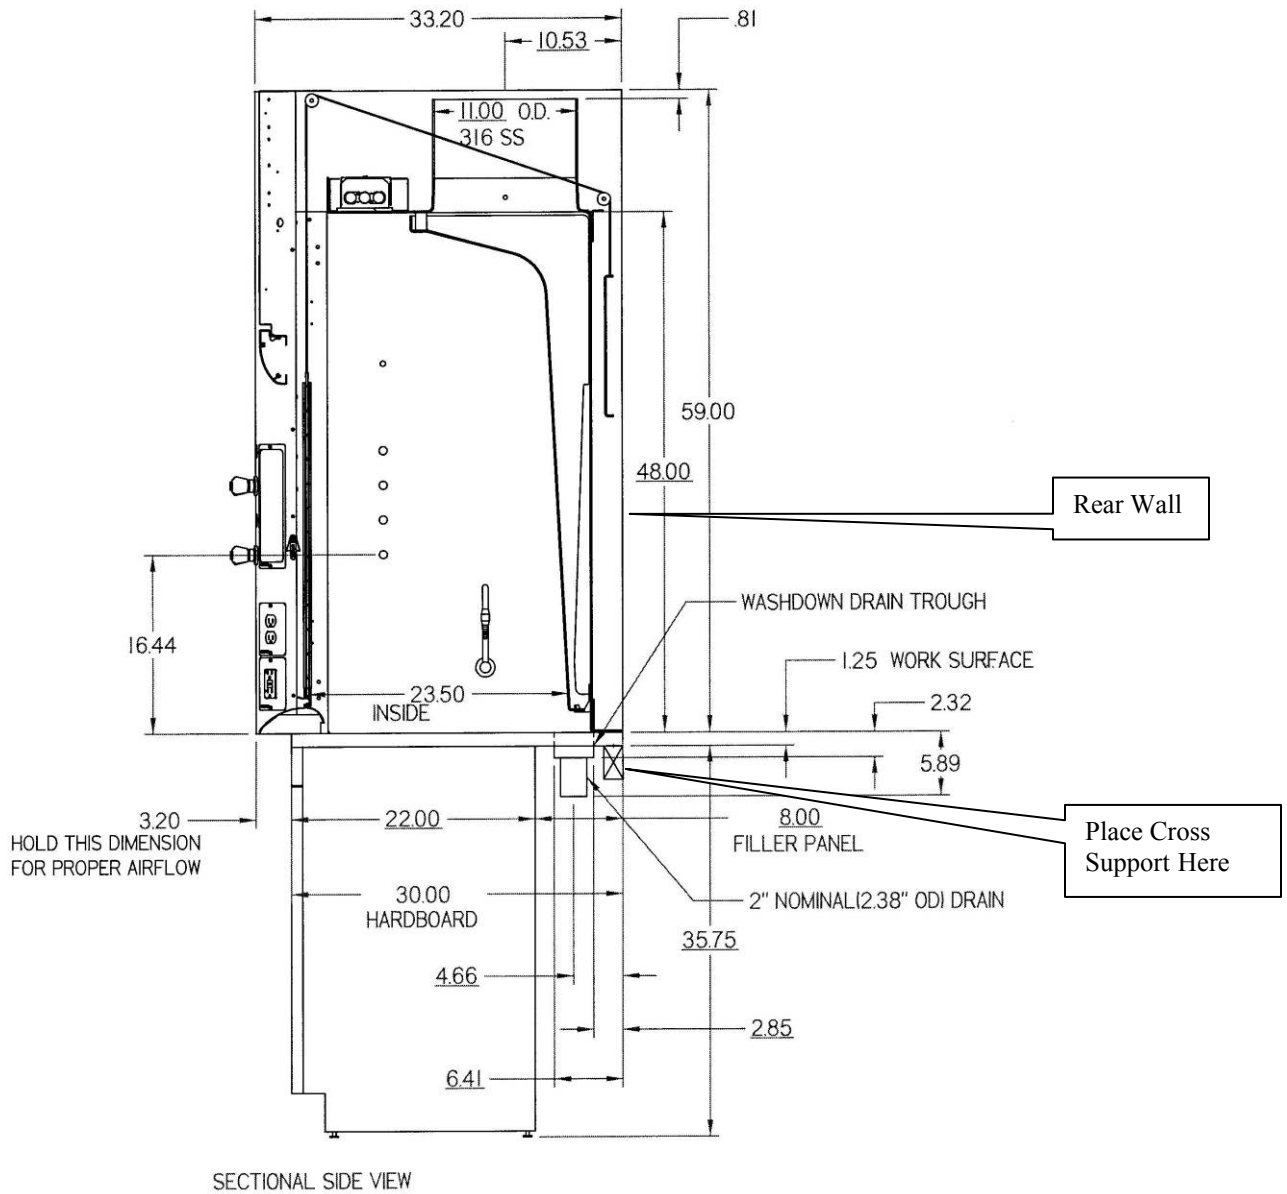

Figure 3-2
1. Level the base cabinets and the work surface. Work surface should be placed flush with the back of the fume hood as shown in Figure 3-2. The hardboard work surface has a cutout to allow for clearance around the rear washdown drain trough.
5. Secure the hardboard to the top of the base cabinet(s) using adhesives with the Solvent Storage Cabinets(s) or mechanical fasteners with the Acid Storage Cabinet(s). Be sure the Perchloric Acid drain trough is accounted for in the relief area of the hardboard top. See figure 3-2.
The Protector Perchloric Hood has been supplied with a 2" nominal (2.375 OD) Type 316 stainless steel pipe drain. Simply connect the 2" pipe to your floor drain. Be sure the connection is either fully welded or leak tight. See figure 3-2.